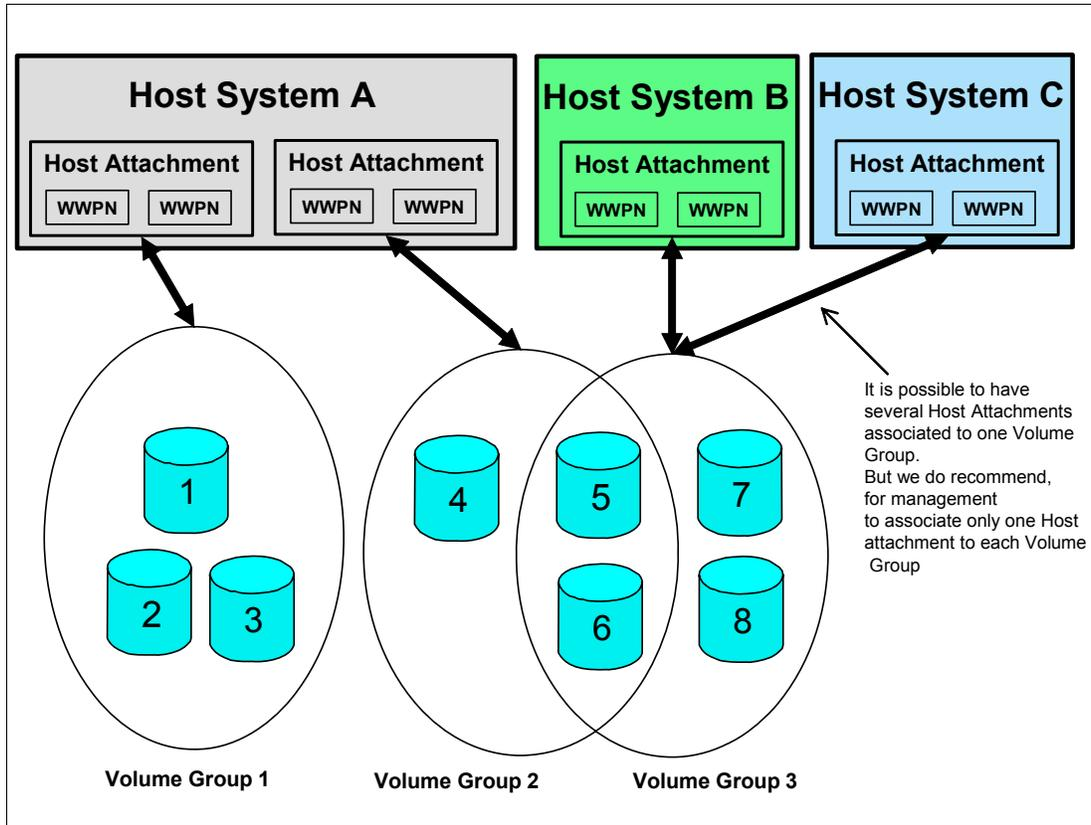

Figure 9-4 Example of Volume Group, LUNs and host attachment definition
- ▶ In order to share LUNs across multiple host attachments, LUNs can be in more than one volume group as shown in the example in Figure 9-4 on page 158.
In Figure 9-4 we show three hosts (Host A, Host B, and Host C). The three hosts are defined in the logical configuration as three different *host systems*. The user will group the WWPN of each host system in groups called *host attachments*. As shown in the diagram, each host attachment is assigned to one volume group. Volumes can belong to several volume groups. For example, volumes 5 and 6 are in Volume Group 2 and Volume Group 3, so they will be shared by Host A, Host B and Host C. Several host attachments can be associated to the same volume group. For example, Hosts B and C will share volumes 5, 6, 7 and 8 because their host attachments are assigned to Volume Group 3. However, for management simplification, we recommend that only one host attachment is assigned to each volume group.